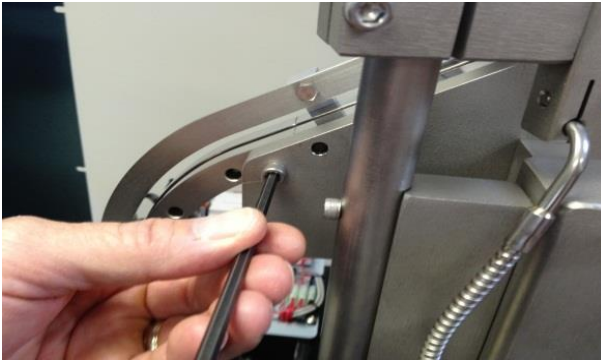

Figure 4.1.1
- Loosen and remove the two (2) rail screws using a 3/16" hex wrench. **Figure 4.1.1 and 4.1.2.**